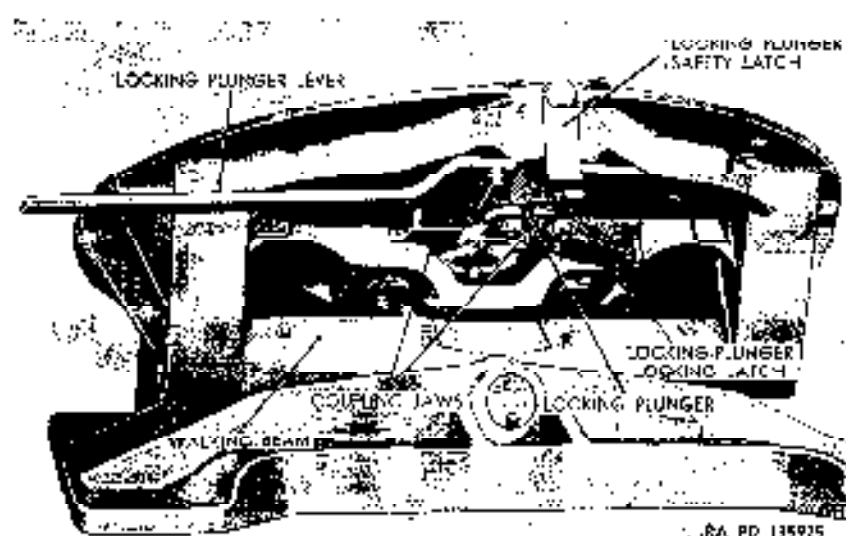

Figure 98. Fifth wheel assembly removed from vehicle—front view.
(1) Coupling.
- (a) Swing the locking plunger safety latch (fig. 98) aside and push the locking plunger lever toward the front of the truck until the locking plunger locking latch drops into position so that the lever remains locked in the forward position. This operation sets the coupling jaws for coupling.